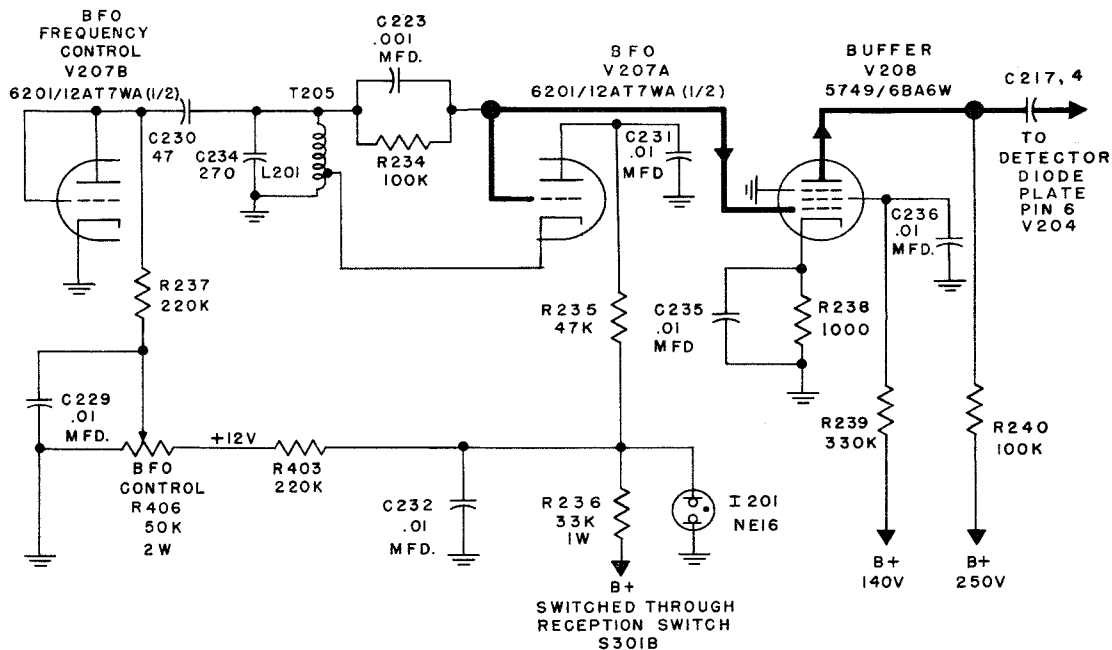

Figure 2-13. Simplified Schematic—BFO Oscillator-Control-Buffer
(3) BFO OSCILLATOR-BFO CONTROL-BUFFER.—Figure 2-13. These circuits function only during A1 or A1 BROAD operation and consist basically of a variable beat frequency oscillator with a center frequency of 120 Kc; a BFO frequency control tube which permits varying this BFO frequency from the front panel or a remote position; and a buffer amplifier stage which is used to isolate the BFO oscillator from signal level changes present at the detector diode plate. The oscillator frequency is normally adjusted to exactly 120